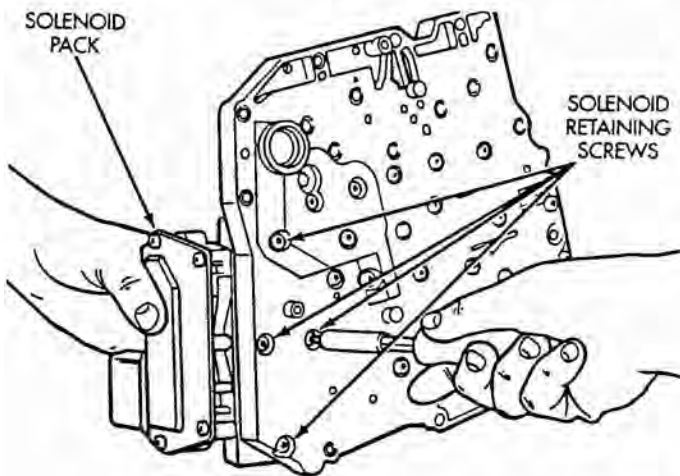

Fig. 10 Solenoid Pack Location
- (2) Remove Manual Valve Lever Position Sensor (MVLPS) and manual shift lever.
- (3) Remove solenoid pack from valve body (Fig. 10).